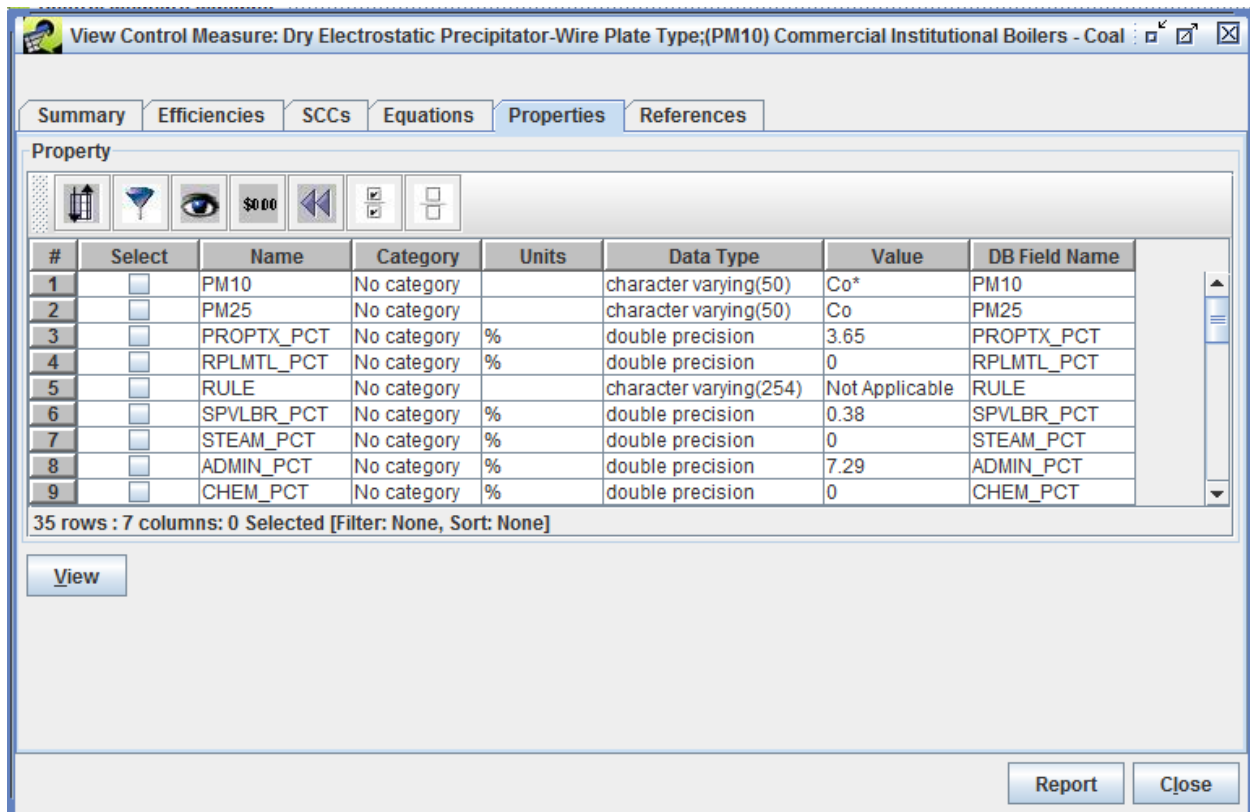

Figure 3.14: Properties Tab of View Control Measure Window
Step 2-9: View the Control Measure Properties. Click on the **Properties** tab on the View Control Measure window to see the data that are available from this tab. Each row in the Properties tab corresponds to a different “property record” in the database. A property record allows for generic information to be stored about the control measures (e.g., metadata). The control measures example in Figure 3.14 shows property information that happened to be archived from the AirControlNET software when the measures were transferred into the CMDB.